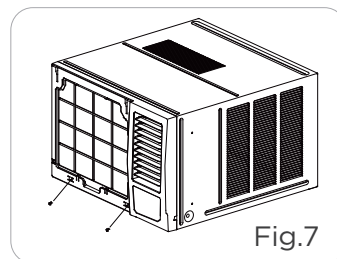

Fig.7
2. Press the both side and lower edge of the frame, and secure it with the two screws at the bottom of the frame.( See Fig. 7)